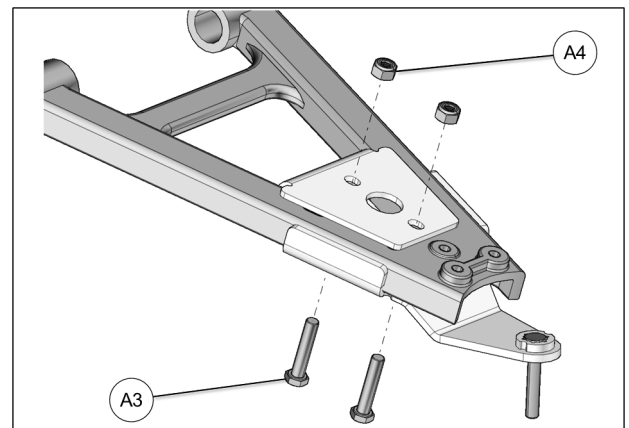

Fig. 17
6. Insert the M10x50 mm bolts (A3) from the bottom and secure the two parts together with the nuts (A4) provided. Tighten assembly to 50 N•m [37 lb•ft] of torque. See Fig. 17